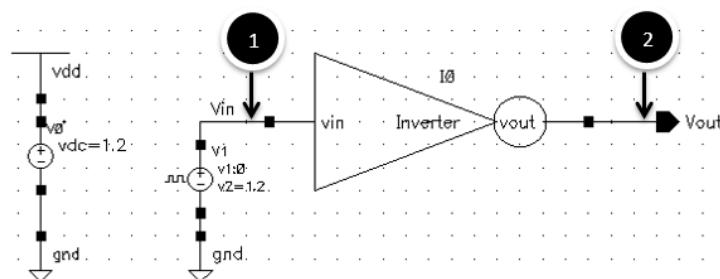
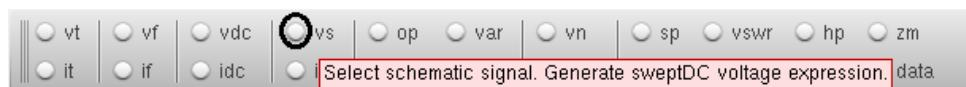

Figure 4.2: Inverter test schematic
Figure 4.5: DC swept button
Retain the Test schematic as before. For ease, it is replicated in Fig.4.2.
- This should open the calculator window. Select **vs** radio button, as shown in Fig.4.5, then go to test schematic and select the node 2 as shown in Fig.4.2.